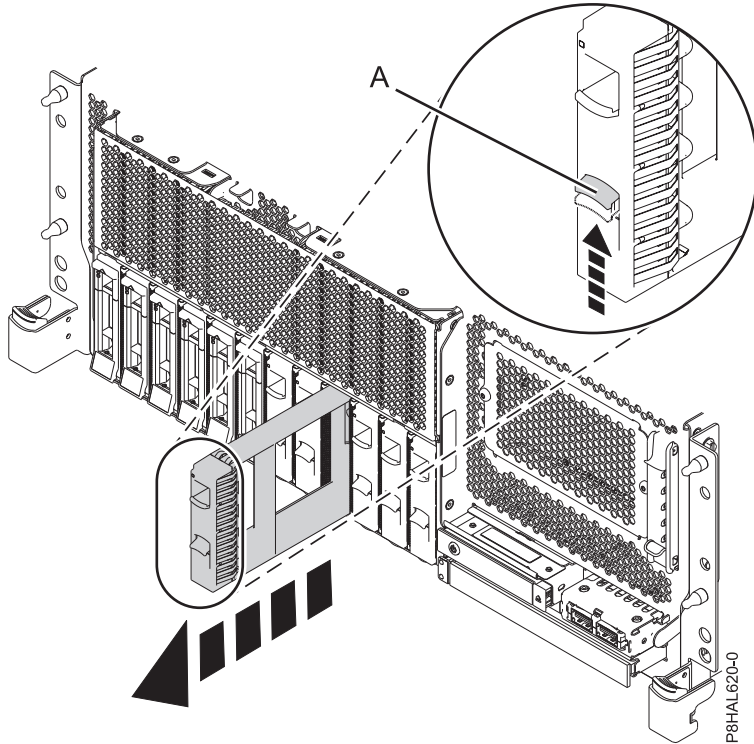

Figure 20. Removing a disk drive filler from a rack-mounted base function system
- a. Push the lock (A) on the handle of the filler in the direction that is shown in Figure 20 on page 27.